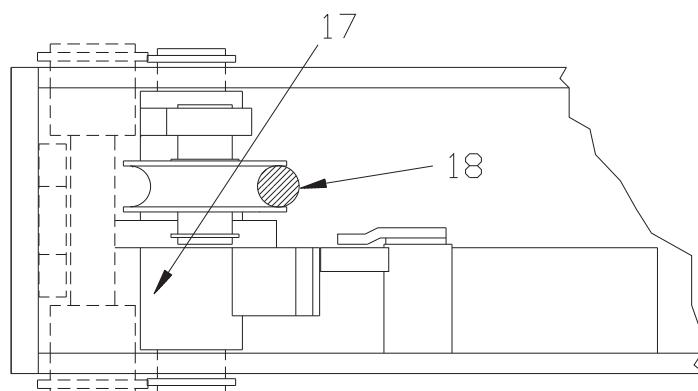
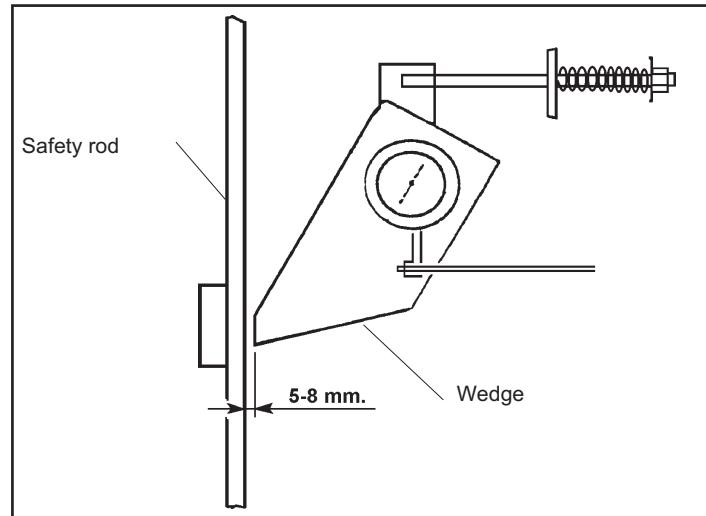
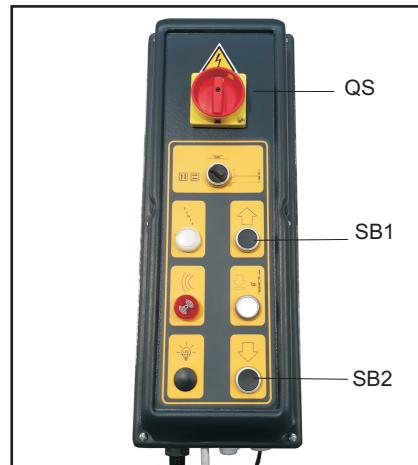

Fig.45 Positioning of lifting cable sensors
Fig.49
Fig.50 Control panel
Before operating with the lifter check that the cables are in correct position on the pulleys. Close the panel, put the switch (QS) in pos. 1 and make the lift rise until clearing the wedges (A-B-C-D); then put the switch in position 0 and close them again. Put the main switch (QS in fig. 49) in position 1, press the lowering button (SB2) and check if the lift lowers. If this doesn't happen, check the adjustment of the four cable sensors (pos. 17, fig. 45) and, if necessary, adjust them by acting on the screw of the micro switch release lever (pos. 36, fig. 50).